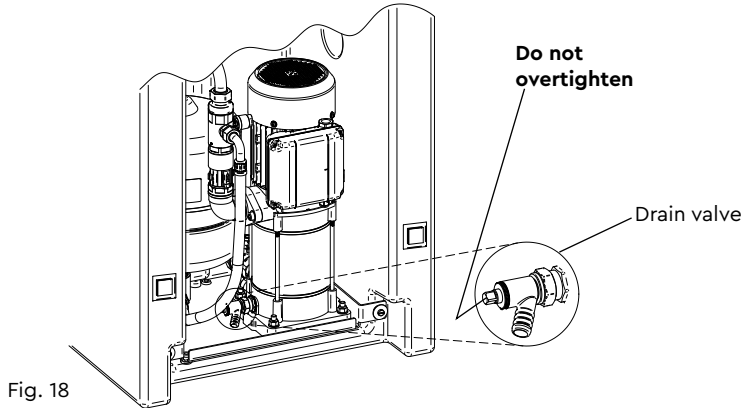

Fig. 18
- b) Isolating the water supply to the tank and attaching a flexible hose to the drain valve (see Fig. 18).